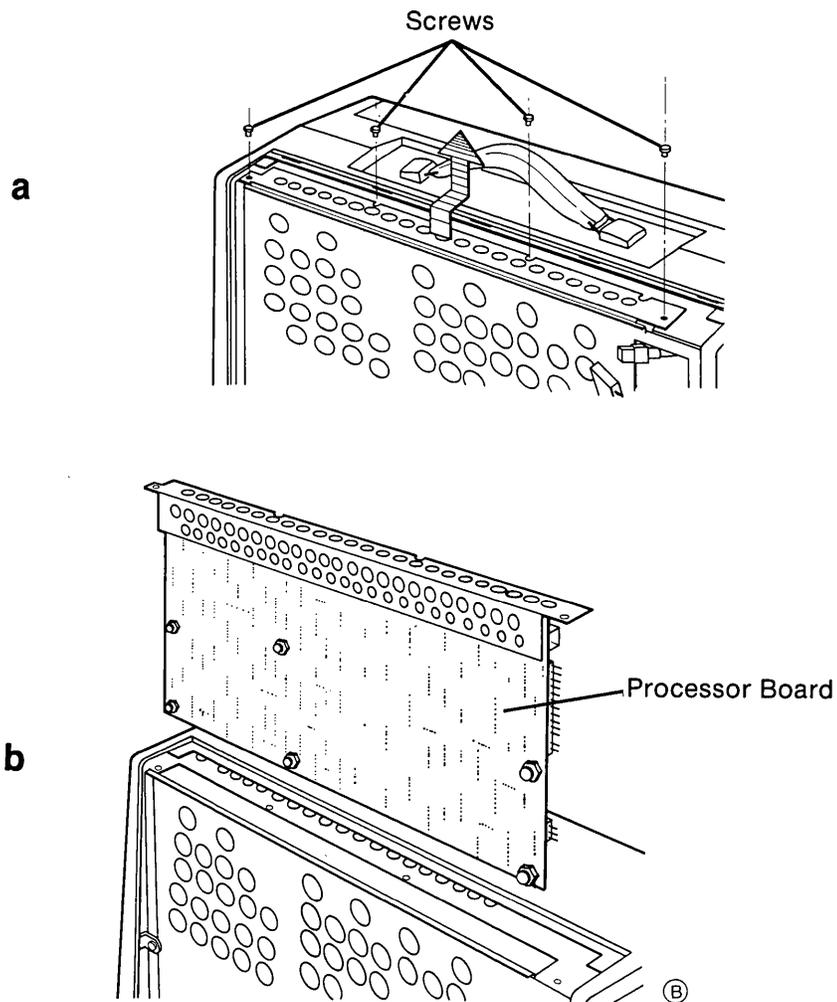

Figure 5-14. Removing the Processor Board.
Locate and remove the four (4) screws which secure the processor board mounting plate to the system chassis (see Figure 5-14 a & b).